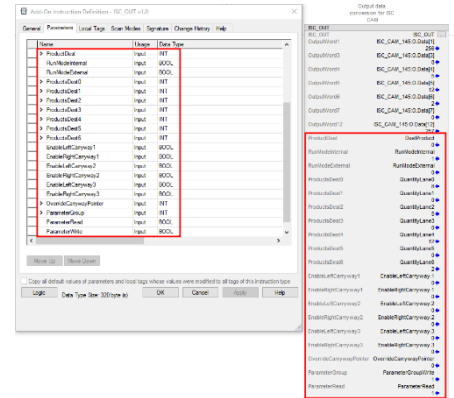

Figure 38: Input Data Types for AOI_ISC_CAM_v2_OUTPUTS
28. Add the ISC CAM outputs words which correspond to the AOI, Figure 38. There is a UDT which includes each of the parameters, items 30-33 have more information.
29. Create unique data type names for all f the parameters in the AOI_ISC_CAM_v2_OUTPUTS, Figure 38.